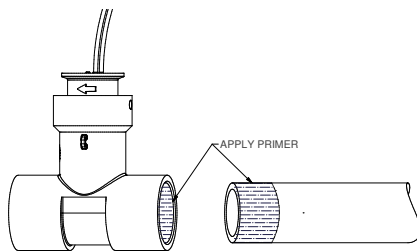

Figure 5
2. Clean and apply primer to the pipe ends and Tee sockets (see Figure 5).